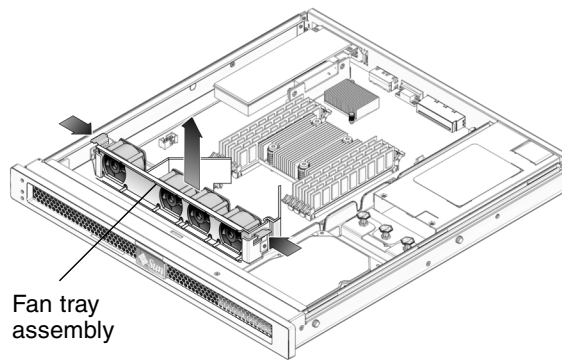

FIGURE 3-6 Removing the Fan Tray Assembly
3. Release the tabs (FIGURE 3-6) on both sides of the fan assembly.